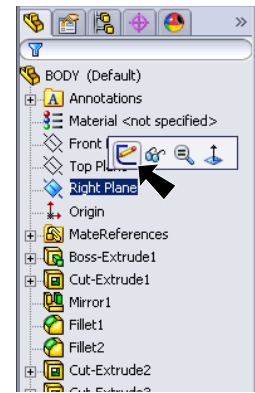

Fig. 74
Step 1. Click **Right Plane**  in the Feature Manager and click **Sketch**  from the Content toolbar, **Fig. 74**.